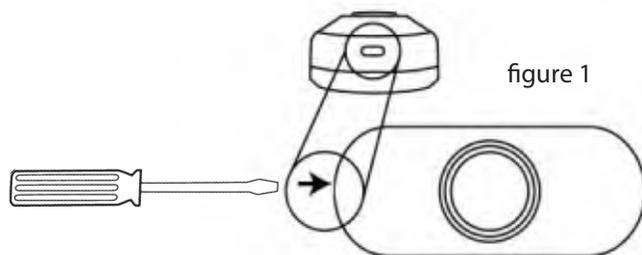

figure 1
2. Insert the included screwdriver into the square hole on the bottom of the unit (figure 1), gently push, and then separate the top and bottom halves of the case.